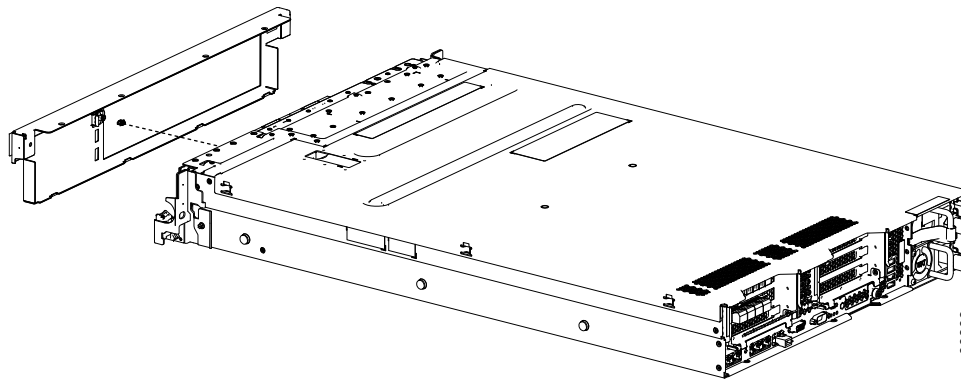

Figure 66. Removing the LED cable from the back of the bezel assembly
8. Remove the LED cable from the LED PCB on the back of the bezel assembly as shown in Figure 66.